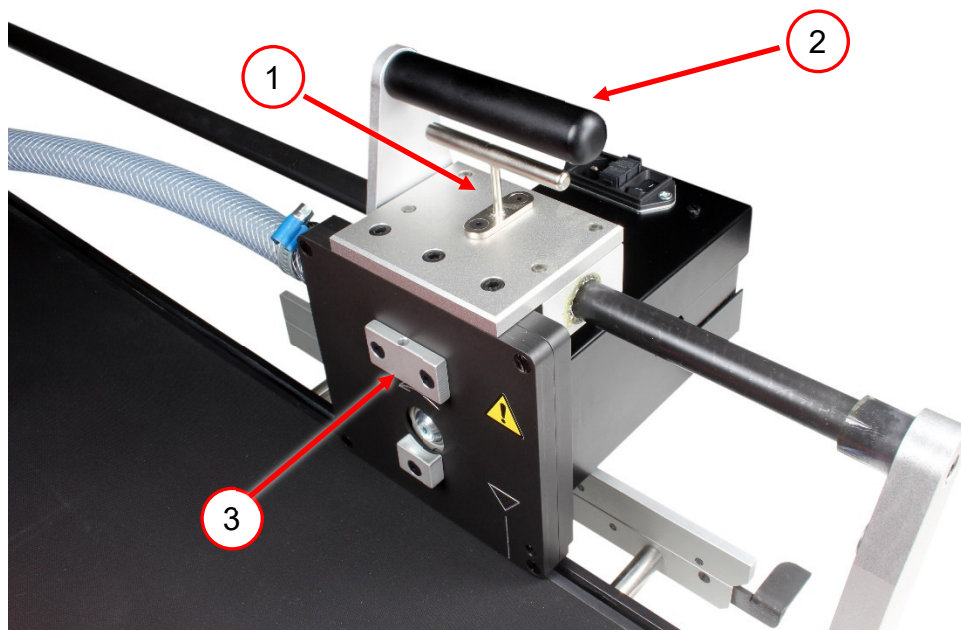

Figure 43 Fitting the VARGA VA 1 lifting handle and handle
12. Fit the lifting handle (1, Figure 43) with the countersunk screws supplied (M4x10).
13. Fit the handle (2, Figure 43) with the countersunk screws supplied (M6x14).
14. If required, attach the lubrication device to the holder (3, Figure 43).